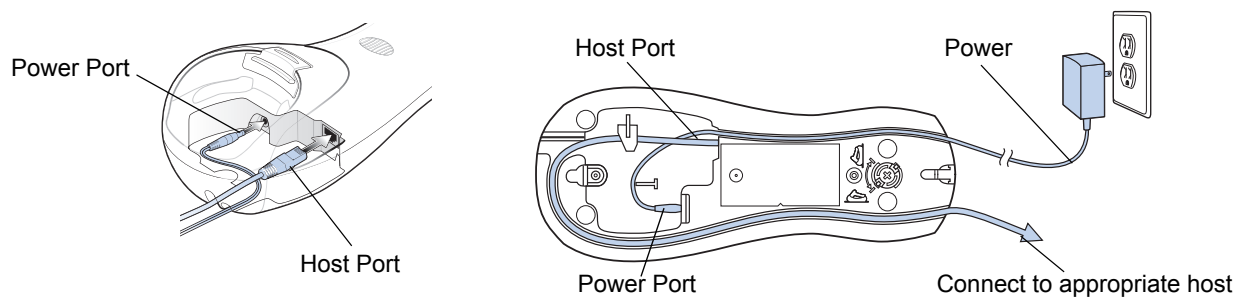

Figure 1-7 Connecting the Cables to the CR0078-S/CR0008-S Cradle
2. If using an interface cable, insert the cable into the cradle's host port. See Figure 1-7.